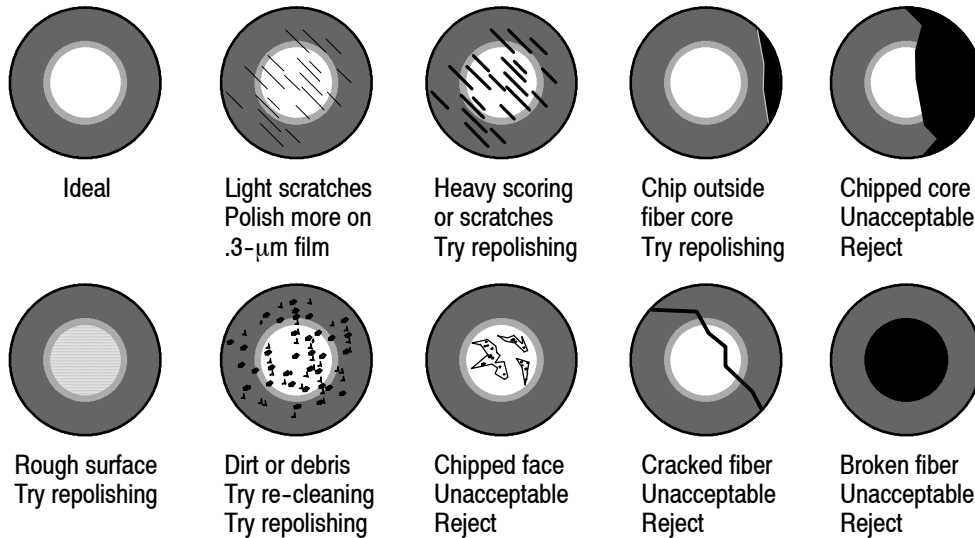

Figure 20
For stainless steel ferrule connectors, remove the circular machine marks on the ferrule tip (from the edge toward the center) until a circle between 0.5 and 0.7 mm [.020 and .028 in.] (still visible) of machine marks remains. This will leave the fiber protruding slightly from the ferrule face as recommended for optimum performance (refer to Figure 20). Other relevant criteria for inspecting the fiber described in Section 6 prevail.
6. INSPECTING THE FIBER (See Figure 20)
2. Inspect the connector with the microscope. If possible, place the far end of the fiber near a bright light. Compare the fiber end to Figure 20, and take any recommended action.